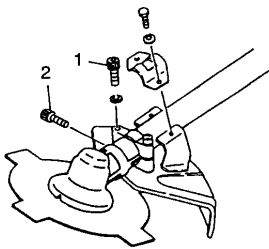

Fig. 1
1. First, remove gear case assembly from your brush cutter by removing pipe tightening screws (1) and pipe lock screw (2), then remove safety cover of brush cutter. (Fig. 1)